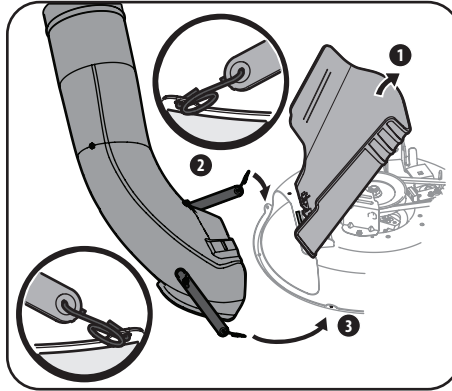

Figure 4-15
1. Secure the end of the strap utilizing the hole furthest from the end, insert the torsion spring hook (732-04510A) into the other end. repeat process for rear strap as shown in Figure 4-15.